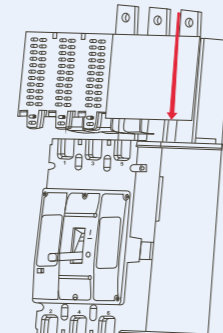
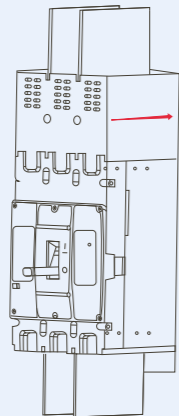

Figure 3
Figure 4
2. After aligning the assembled arc shield with the red marked surface on the middle cover, slide it towards the product side according to Figure 3 to ensure that the arc shield is securely attached to the base
3. After the arc cover is clamped with the base and middle cover according to Figure 3, apply force according to Figure 4 to move the arc cover in the direction marked in red. After installation, as shown in Figure 4, fix and install the arc isolation plate on the arc cover with screws, as shown in Figure 5